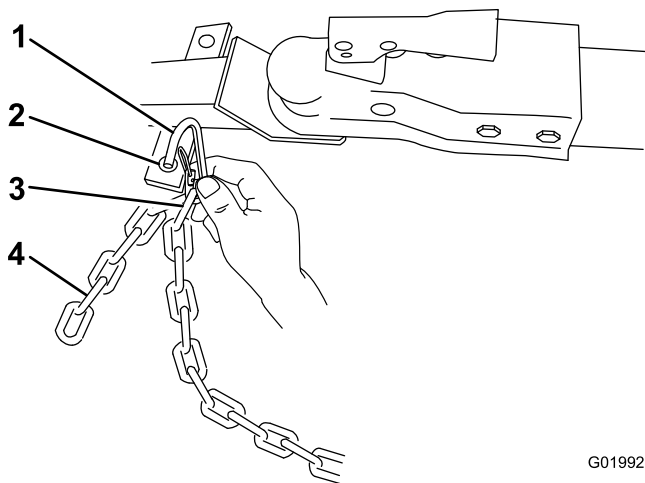

Figure 20
3. Connect each length of chain to the safety chain mounting point on the tow vehicle with the connecting links (Figure 20).